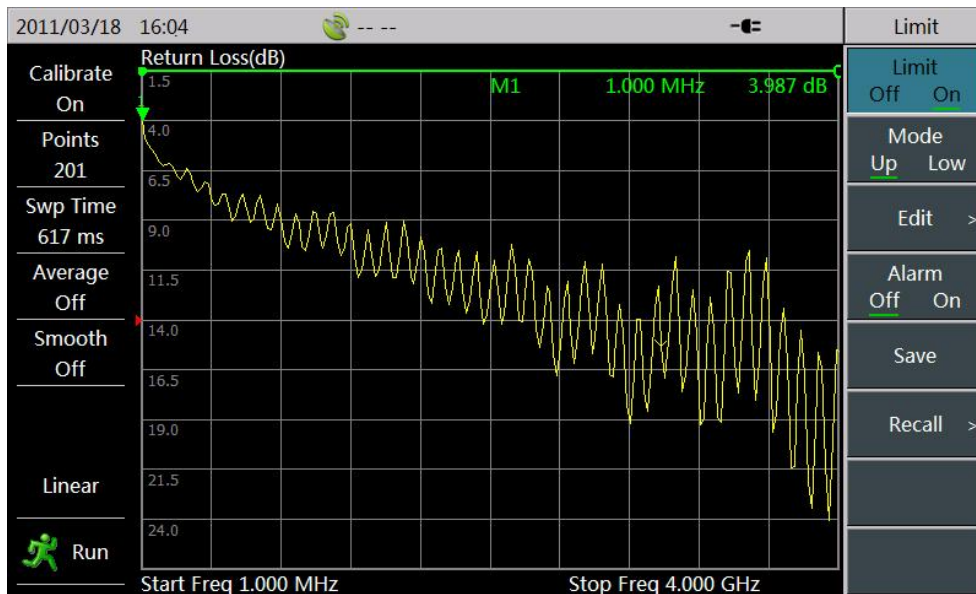

Figure 1-11 Limit Line in Use
- 4) In the industrial batch test, users can refer to the eligibility criteria of their own company, and then set limit line of return loss through **【Limit】** function of the tester. Thus, when large quantities of products need to be tested, it only needs to replace DUT and observe limit line to judge whether the product is qualified or not. If the limit line is red, DUT is disqualified; if the limit line is green, DUT is qualified. In order to reduce the editing process of limit line, users can also save the limit line for future direct recalling when measuring the same products. Limit line in Figure 1-11 has been edited.